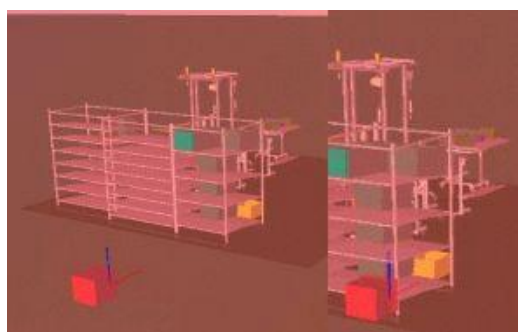

Figure 53: Example: Moving Point to Plane
- 3) Click **Apply** to place the graphic object. Please refer to the Figure 53.